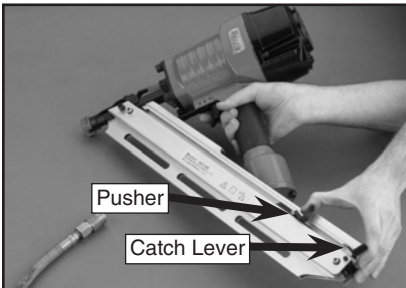

Figure 3. Sliding pusher toward the catch lever pusher.
2. Gripping the nailer firmly, pull the magazine pusher back and engage the catch lever, as shown in **Figure 3**.